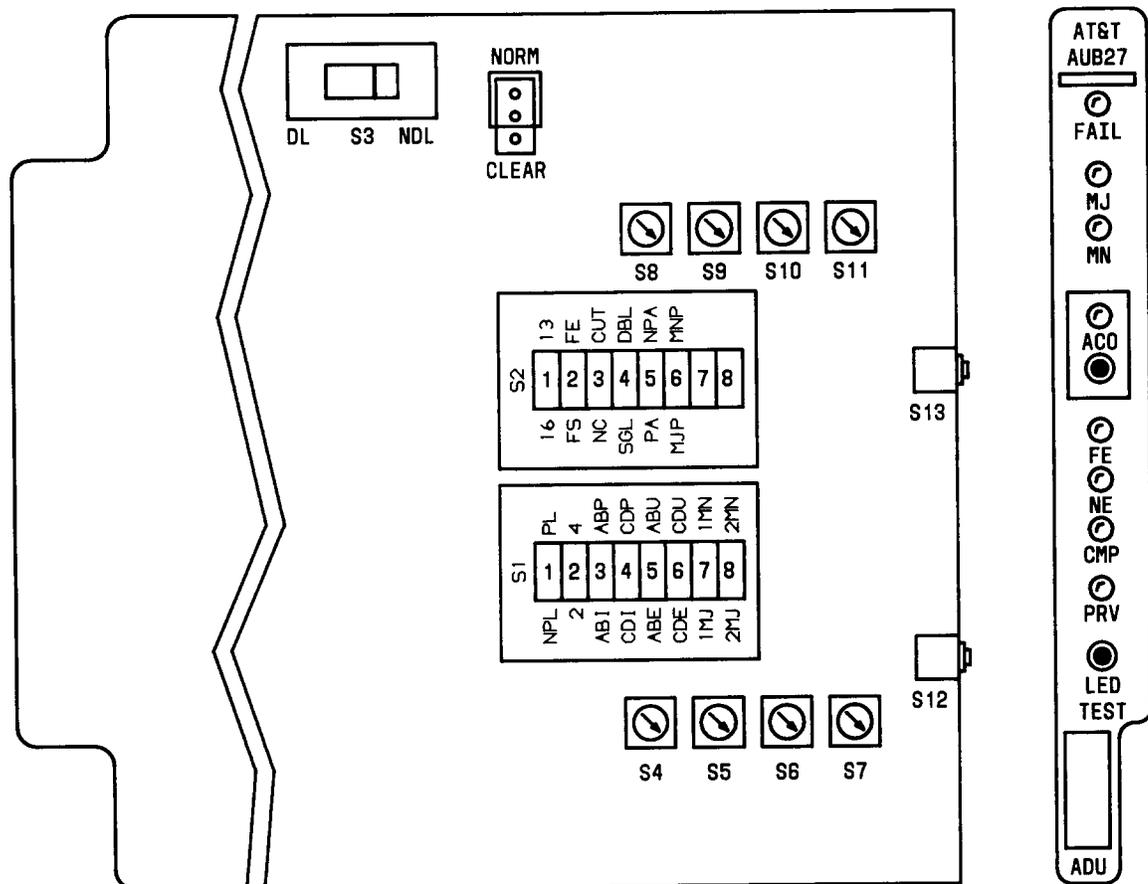

Fig. 1—INA-RT Alarm Display Unit
1. Remove the ADU and locate the NORM/CLEAR option plug (Figure 1).